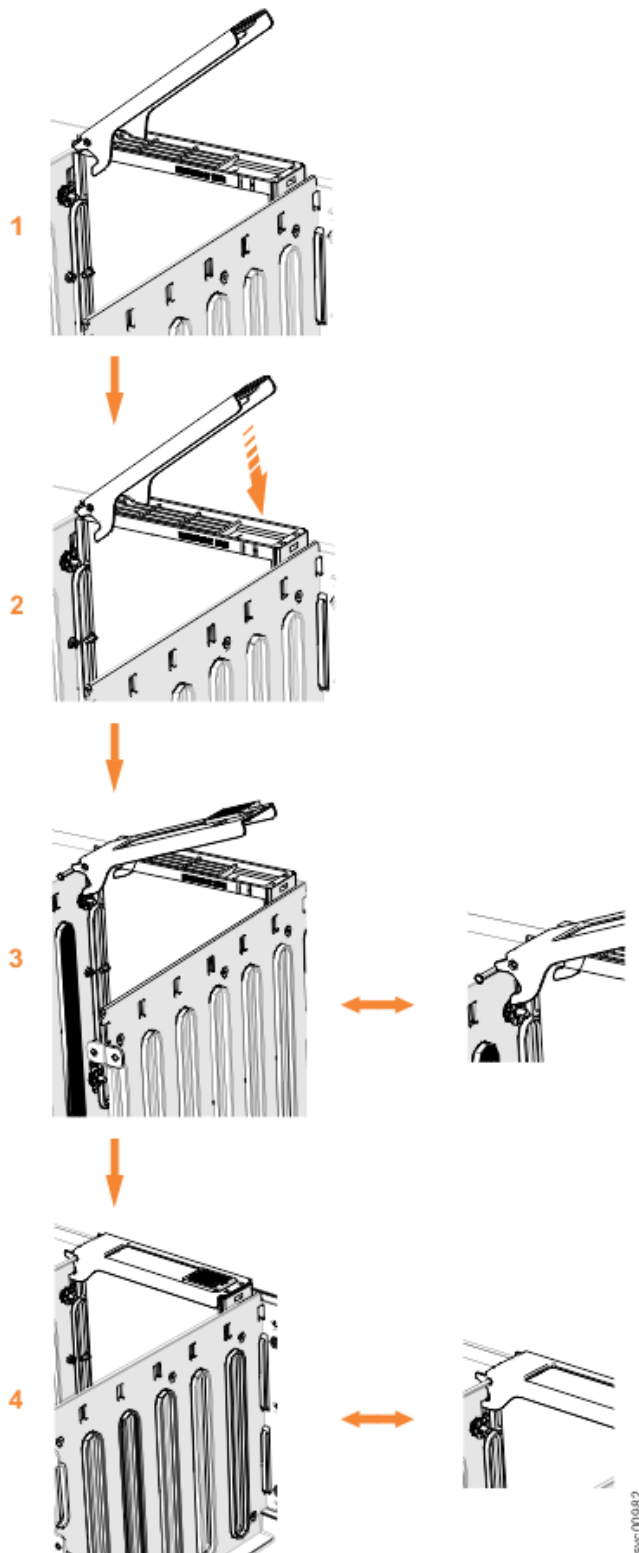

Figure 74. Replace the drive
5. Ensure that the drive handle (1 in Figure 74 on page 65) of the drive assembly is in the open (unlocked) position.
7. Gently push the drive down until it stops and the bottom of the latch is aligned with the top of the partition. Ensure that the handle is not open more than 45 degrees from the drive carrier. (2 in Figure 74 on page 65).
8. Rotate the handle down to lock the drive assembly into the chassis (**3** in Figure 74 on page 65).
10. Ensure that the top toe of the latch is also fully engaged (**4** in Figure 74 on page 65).